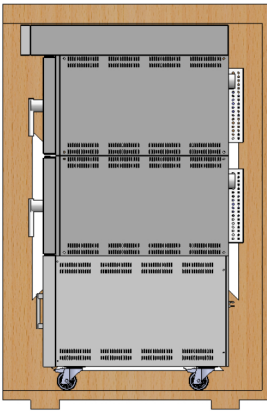
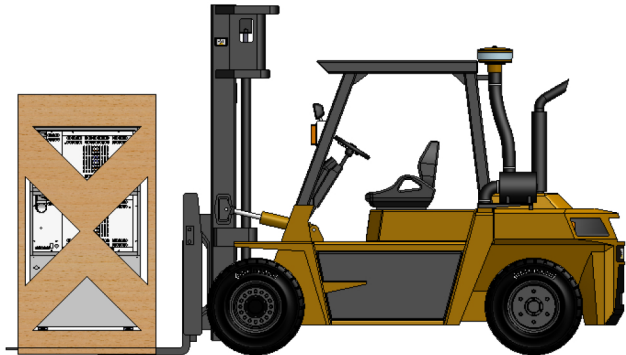

Figure 4
Figure 5
- Check that the oven (the material on the pallet) is balanced on the forklift forks. (See Figure 4 and Figure 5)